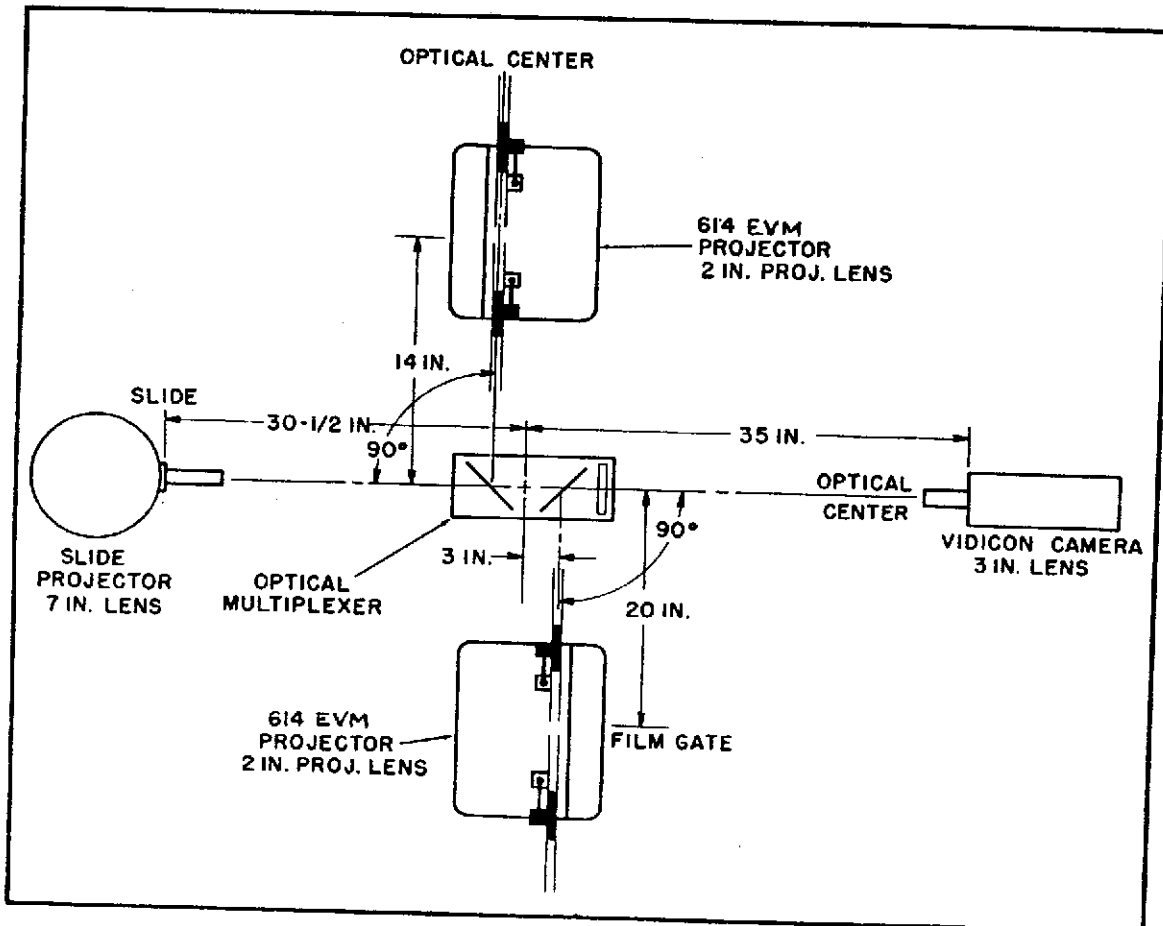

Figure 3. Typical Telecine Room Layout
f. A typical telecine room layout is shown in figure 3. When using lenses other than those indicated in the illustration, refer to the 16mm lens data chart (Table I) for image size of different focal length lenses.